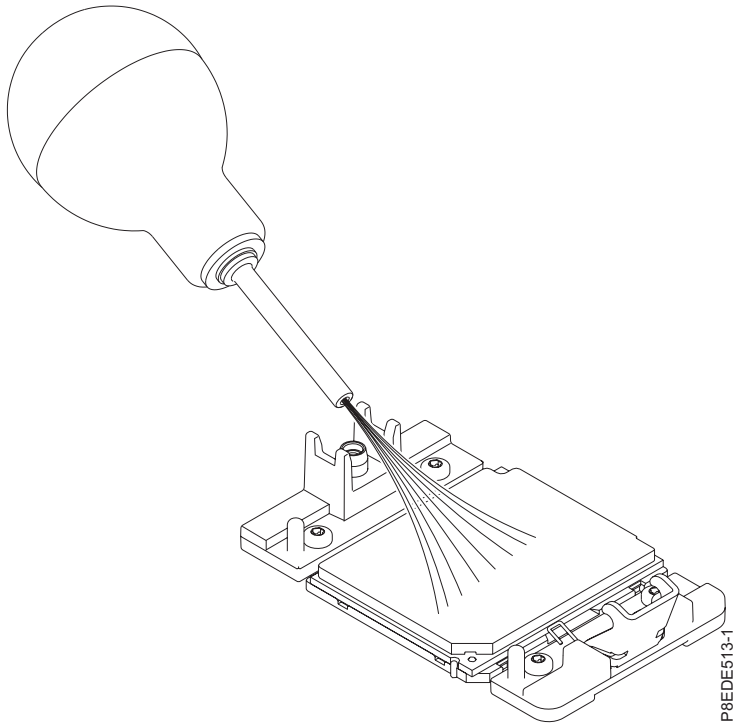

Figure 4. Removing dust and debris from the system processor module area
- a. If dust or debris is present, use the supplied air pump (part number 45D2645) to clean the system processor module area. If your air pump is not assembled as shown in Figure 4 on page 7, fasten the tip onto the bulb. Blow small bursts of air from the center toward the sides of the system processor module as shown in Figure 4 on page 7.